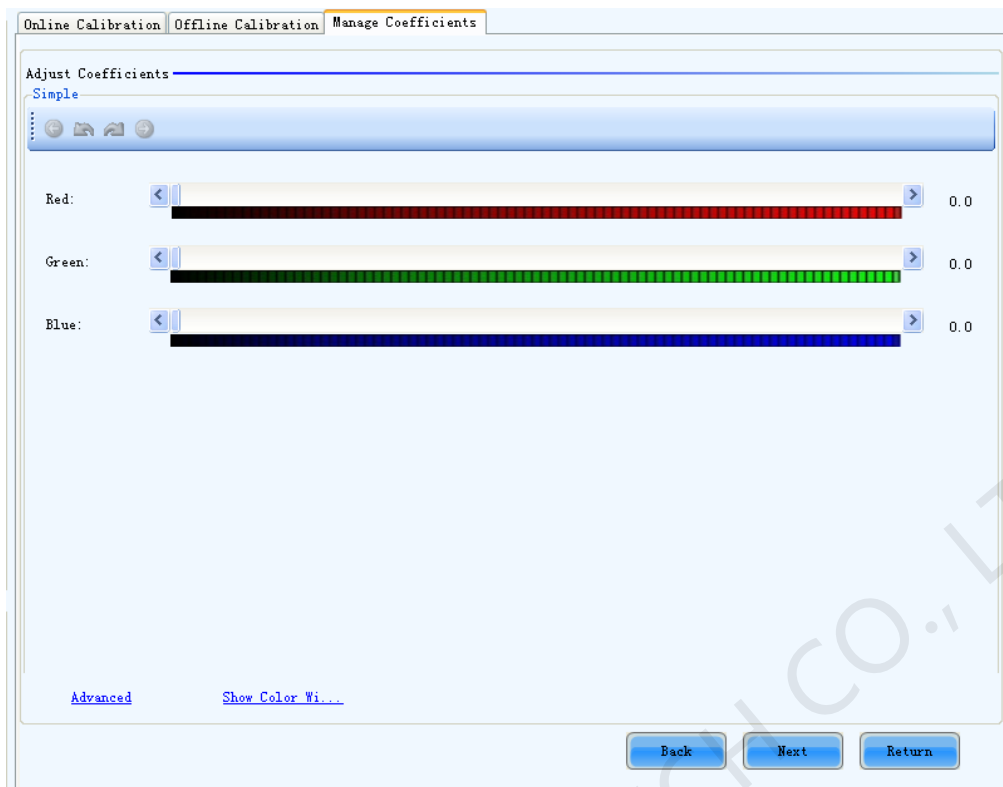
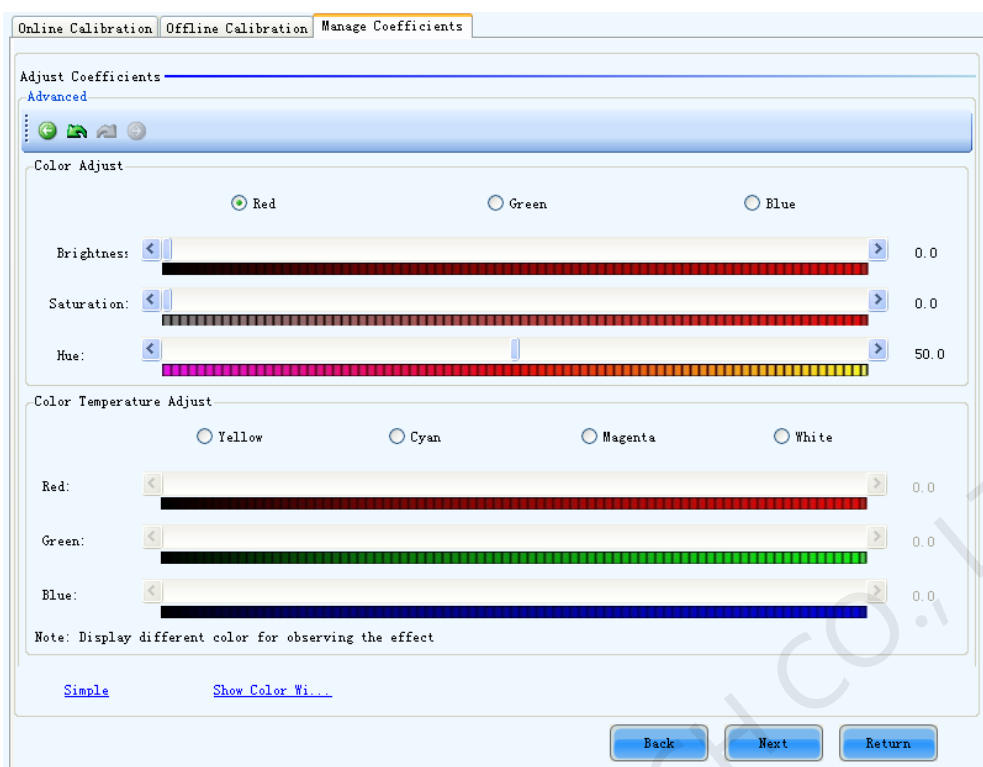

Fig. 7-64 Simple adjustment page
Fig. 7-65 Advanced adjustment page
- 3) If the calibration coefficients from Step 2 are not satisfying, they can be adjusted. There are two type of adjustment, Simple and Advanced. Shown in Fig. 7-64 and Fig. 7-65 are the pages for Simple and Advanced adjustment respectively.